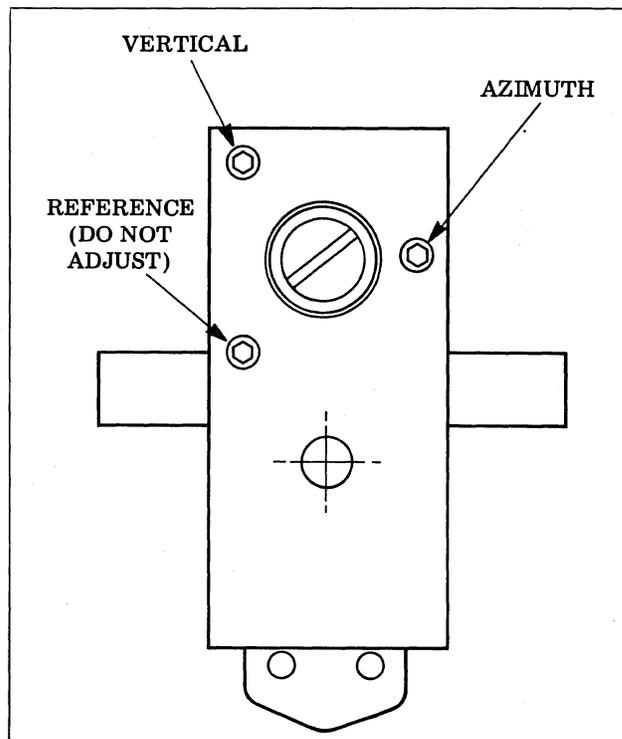

Figure 5-8. Head Adjustment Screws
11. If adjustment is required, turn the *azimuth* adjustment screw (Figure 5-8) *very slightly* to obtain maximum cancellation.
13. If adjustment is required, turn the *vertical* adjustment screw (Figure 5-8) *very slightly* to reduce the noise to the minimum value on both channels.
Do NOT tamper with the reference screw (Figure 5-8); it is a reference point set at the factory. If moved, field realignment of the head becomes very difficult.